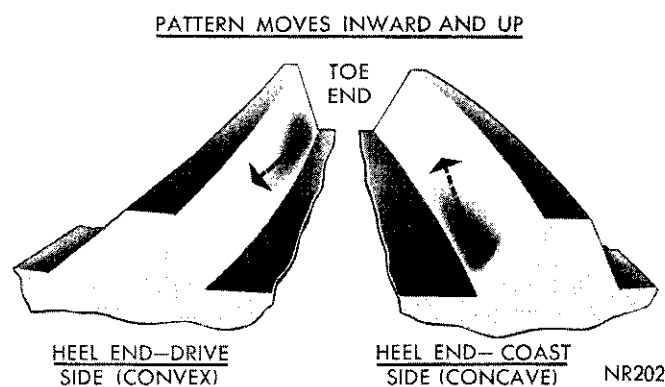

Fig. 36—Effect on Tooth Contact Pattern as Spacer Thickness is Decreased
(4) If after observing the contact pattern you find it resembles that in (Fig. 35), the drive pinion is too close to the ring gear, the pattern will appear low on the toe on drive side and low heel contact on coast side. To correct this type tooth contact pattern, decrease the thickness of the rear pinion bearing mounting spacer (Fig. 36), which will cause the low toe contact on drive side to raise and move toward the heel; low heel contact on coast side will raise and move toward the toe.